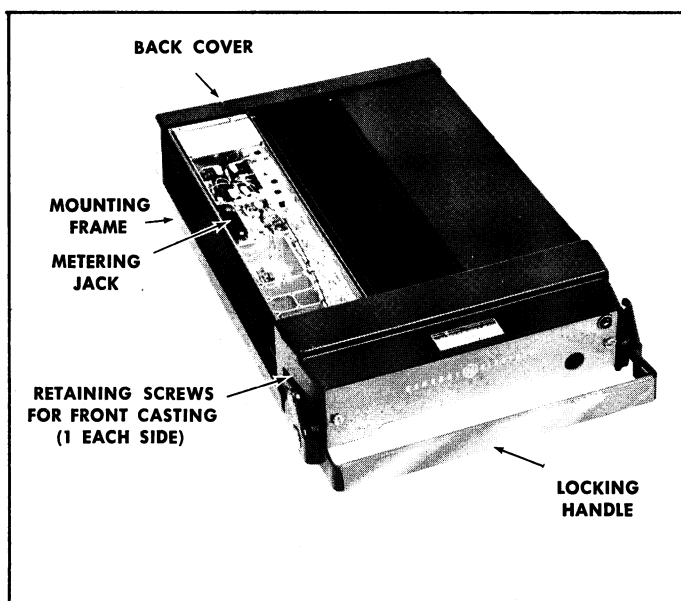

Figure 3 - Removing Top Cover
1. Pull locking handle down and pull radio about one inch out of mounting frame. (see Fig. 3).
1. Loosen the two Phillips-head retaining screws in front casting (see Figure 3), and pull casting away from system frame.